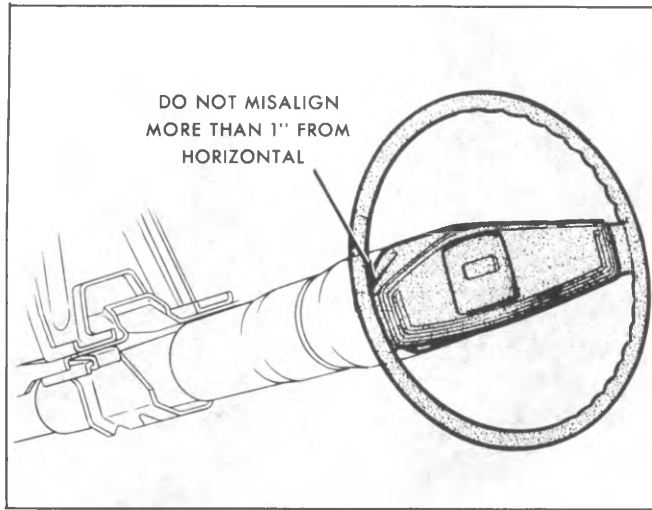

Fig. 3B-31--Steering Wheel Alignment
6. Be sure to properly orient sleeves and clamps as shown in figures 3B-104, 3B-106 and 3B-109 when fastening and torquing clamps to proper specifications.